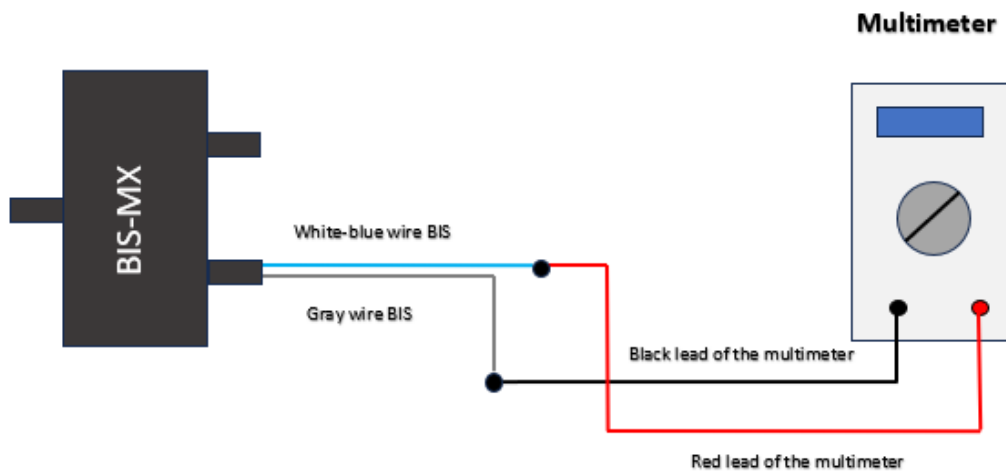

Fig. 15 Connection Diagram
2. Assemble the connection circuit according to "Fig. 15 Connection Diagram".